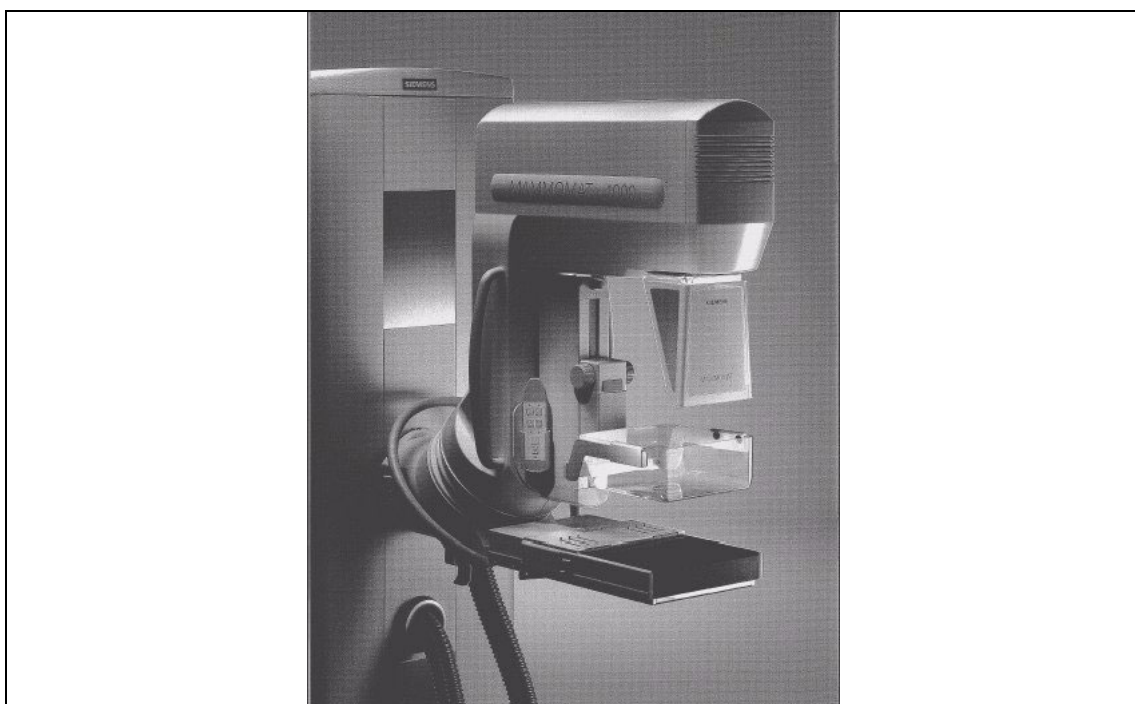

Fig. 3 - MAMMOMAT 1000 with IRRC - the longer convex sign 455 mm
- For the MAMMOMAT 1000 **with** infrared remote control (IRRC) the complete set of three plastic covers of the swivel arm with tube assembly, the "Tube cover kit" material number 066 16 457 is defined as spare part. The covers delivered as spare parts will have the "Convex sign - Mammomat 1000, length 455 mm", material number: 65 21 897 already glued. (See figure 3)